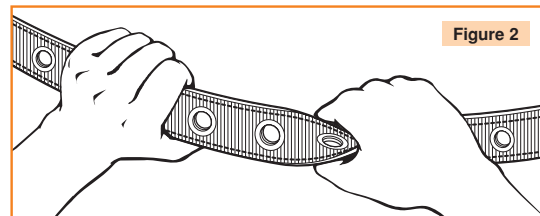

Figure 2
- 2. Inspect buckle and belt ends.** Inspect the ends of all straps, which can wear from repeated opening and closing. Enlarged or distorted holes may indicate excessive wear or damage through impact loading. Harnesses with unusually enlarged or distorted holes should fail inspection. (See Fig. 2)